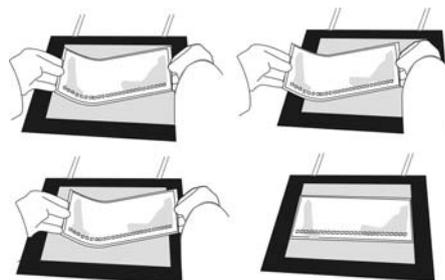

Fig. 3.2
4. Remove the gel from its packaging. Remove the cover-film. Grip the gel (surface-up) at the two lateral edges at the protruding film, bend it like an “U” and slide the film-backing left and right on the cooling plate to distribute the cool contact fluid evenly (Fig. 3.2). Remove excess cooling fluid along film edges with lint-free tissue paper.